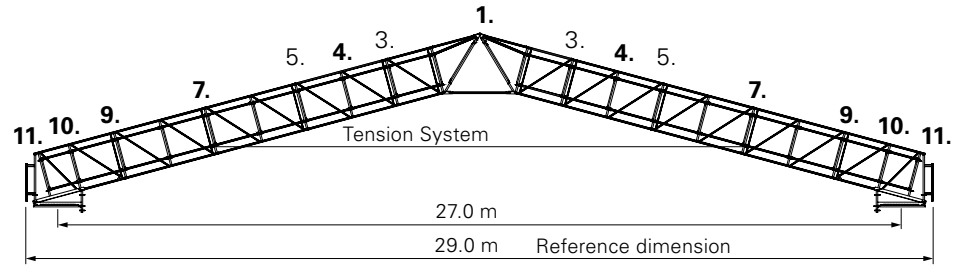

Fig. B1.01b
- 1st Basic Element (Fig. B1.01b)